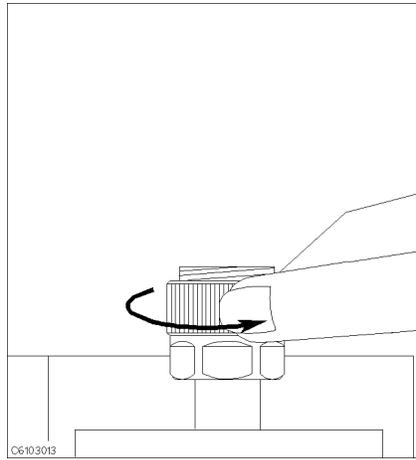

Figure 3-13.
1. Turn the APC-7[®] connector on the test head as shown in Figure 3-13.